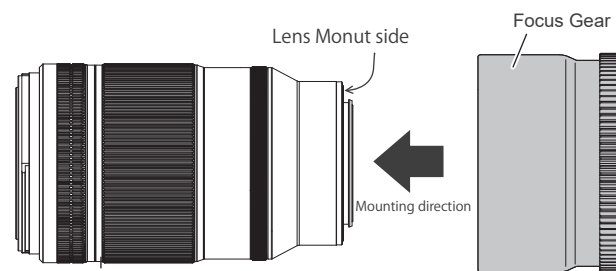

Fig.1
1 Attach this product to the lens in parallel alignment with the lens as shown in Fig.1
- Please make sure to insert the focus gear from the lens front side. (Fig.1)